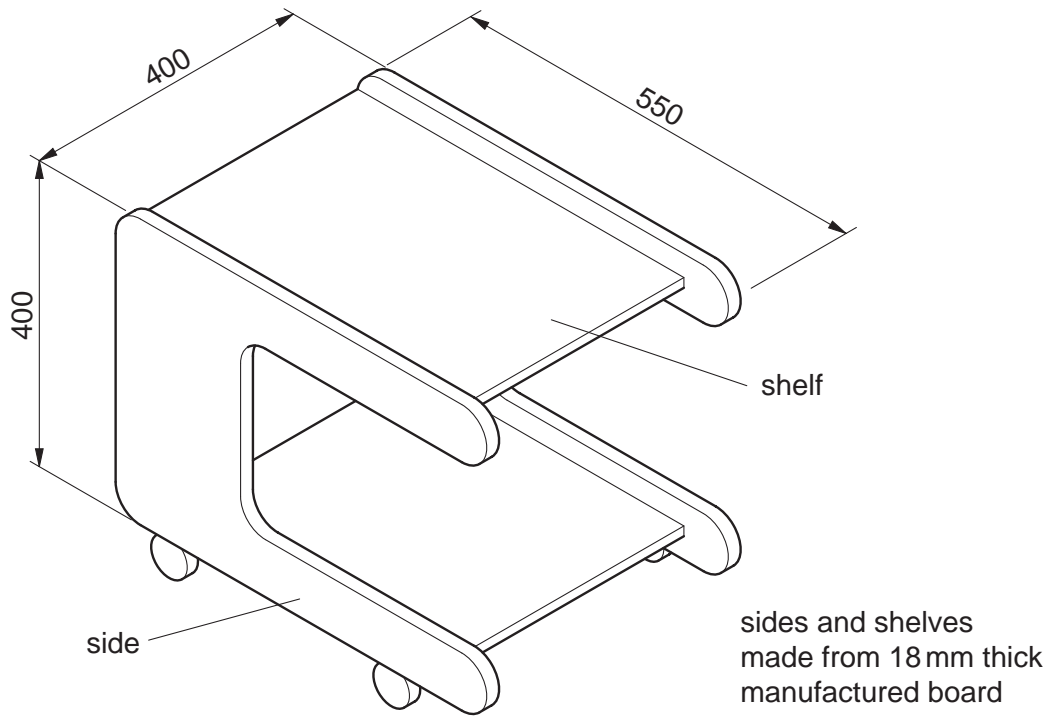

Fig. 8
- 5 Fig. 8 shows a trolley used in a home.